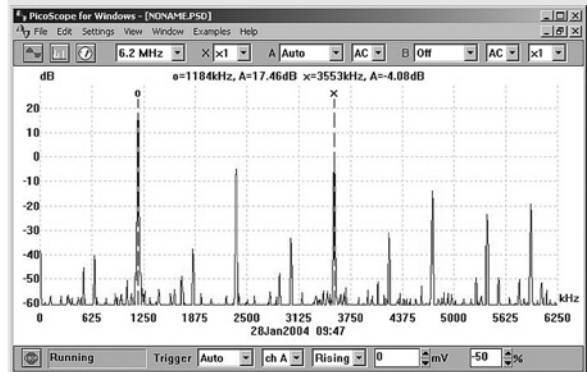

Figure 10.28
**Problem 11.** Figure 10.28 shows the frequency spectrum of a signal at 1184 kHz displayed by a high-speed virtual DSO. Determine (a) the harmonic relationship between the signals marked 'o' and 'x', (b) the difference in amplitude (expressed in dB) between the signals marked 'o'